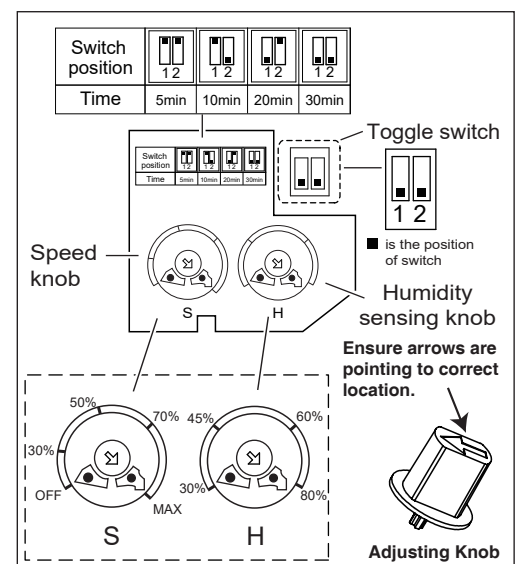

Fig 3
- The " Toggle switch " will change the time of the fan working at maximum speed after the humidity of room is lower than the pre-set humidity sensing level. (Fig 3)
- There are two toggles on the toggle switch. Adjust the toggles as shown in fig 3 to adjust the delay time. The timer is pre-set to 30 minutes. When the humidity is lower than the sensor setting, the fan will maintain its maximum speed until the pre-set time is up.
When installing Humidity and Speed Control Knob, make sure the arrows are pointing to the correct location as picture shows in Fig 3.